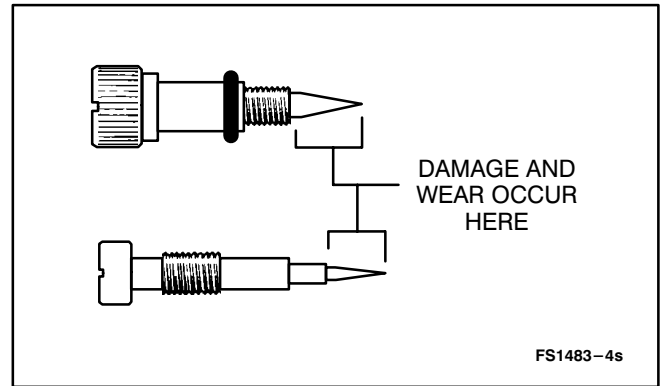

FIGURE 8-13. MIXTURE NEEDLE INSPECTION
4. Examine any needle valves not included in the repair kit, and replace if damaged (Figure 8-13). Replace the float if it is damaged or contains fuel.